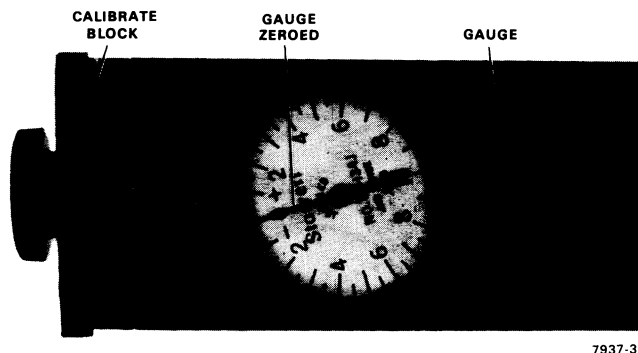

Figure 8-7 Alignment Gauge and Calibration Block
4. Calibrate the alignment gauge by setting the dial to zero with the calibrate block screwed securely in place (Figure 8-7).